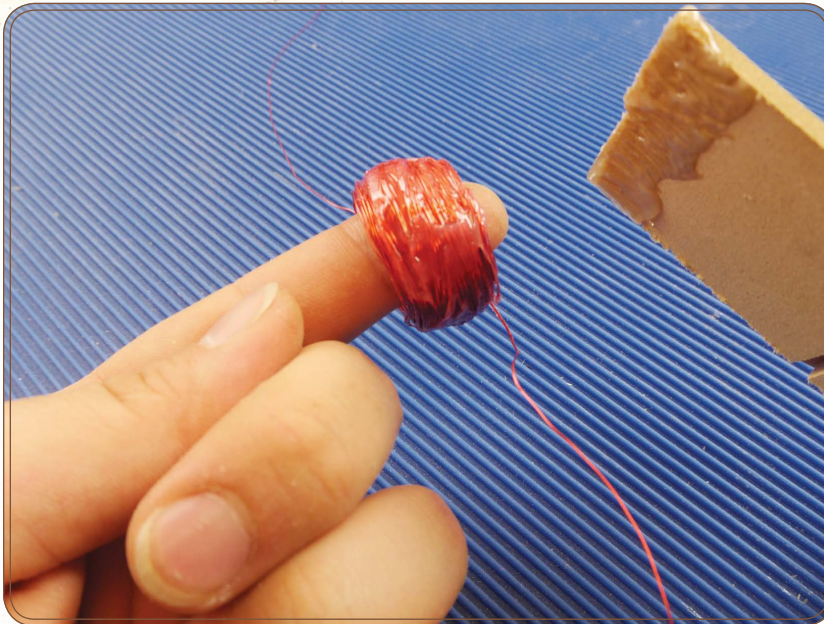

Figure 8.2: Smearing glue on the coil
3. Smear a thin coat of glue on the coil and let it harden (see Figure 8.2).